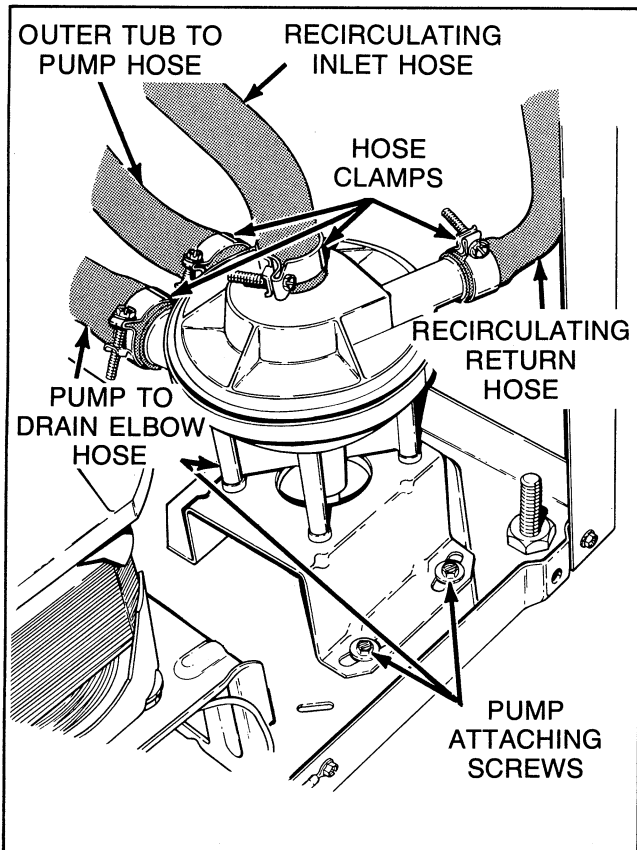

Figure 20
- Remove the two front mounting screws, *Figure 20*, and loosen the rear screw.
- Loosen hose clamps and remove all hoses from pump assembly, *Figure 20*.